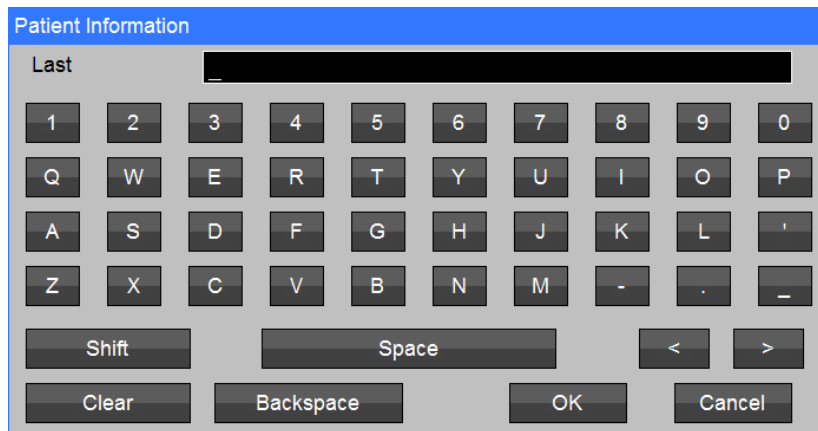

Figure 43: Last (name) keyboard
- 4) Use the keyboard (refer to Figure 43) to enter patient specific information.